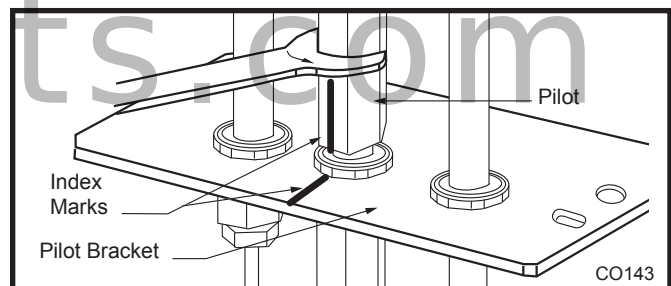

Fig. 69 Remove pilot hood. (Your pilot may have a different appearance.)
- Loosen pilot hood turning counterclockwise using a 7/16” wrench. (Fig. 69) **NOTE:** You may use penetrating oil to prevent pilot hood threads from seizing up.